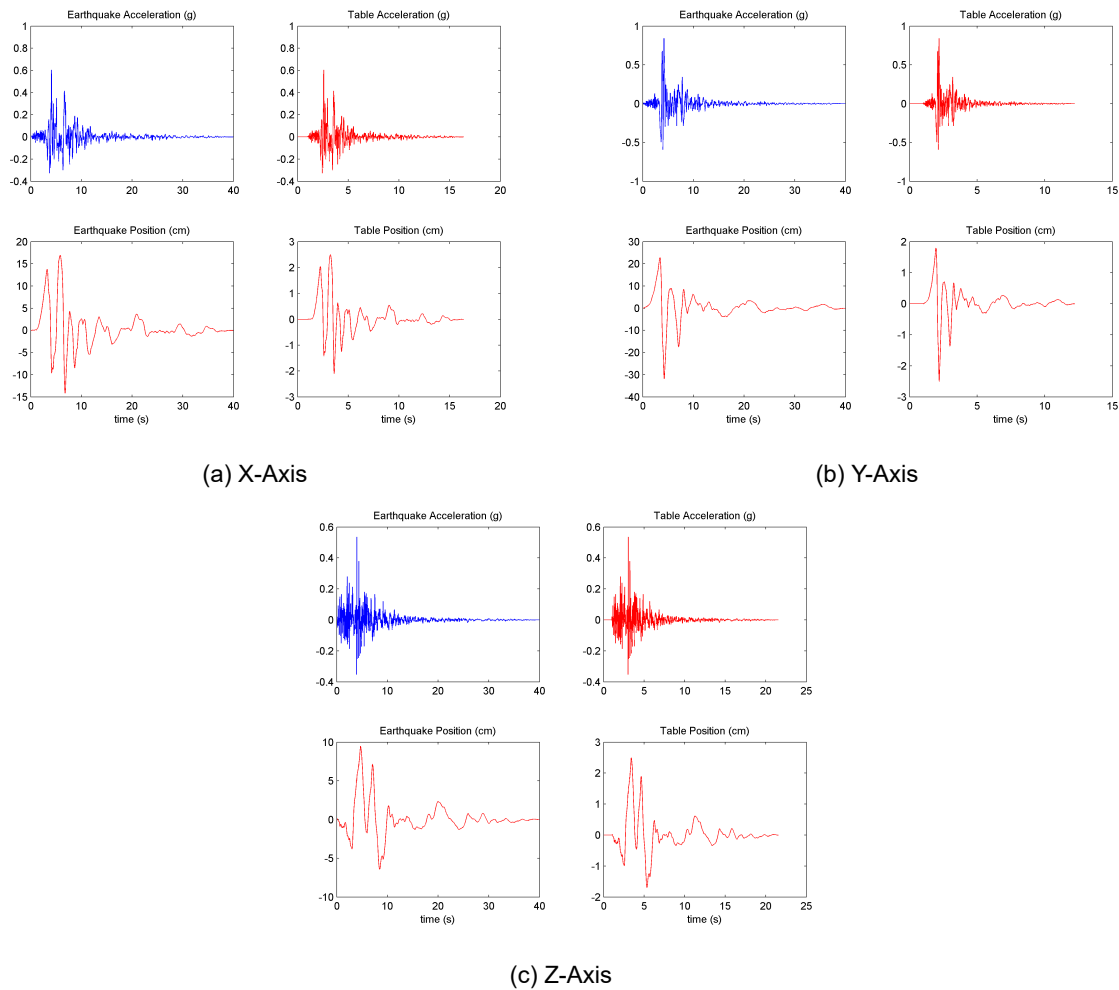

Figure 3.1: Northridge earthquake plot created by `make_quake_xyz.m` script
5. Run the `make_quake_xyz.m` script (click on Debug | Run in the Editor menu bar or on the Run icon in the Editor tool bar) to generate the earthquake wave. This will generate a plot similar to Figure 3.1. The desired acceleration and recorded earthquake acceleration is shown in the top plot (in gravitational units) and the scaled position setpoint in the bottom plot (in centimeters).
**Note:** As shown in Figure 3.1, the acceleration of the scaled position,  $A_c$ , is the same as the acceleration of the recorded earthquake, i.e. the unscaled acceleration  $A_u$ .